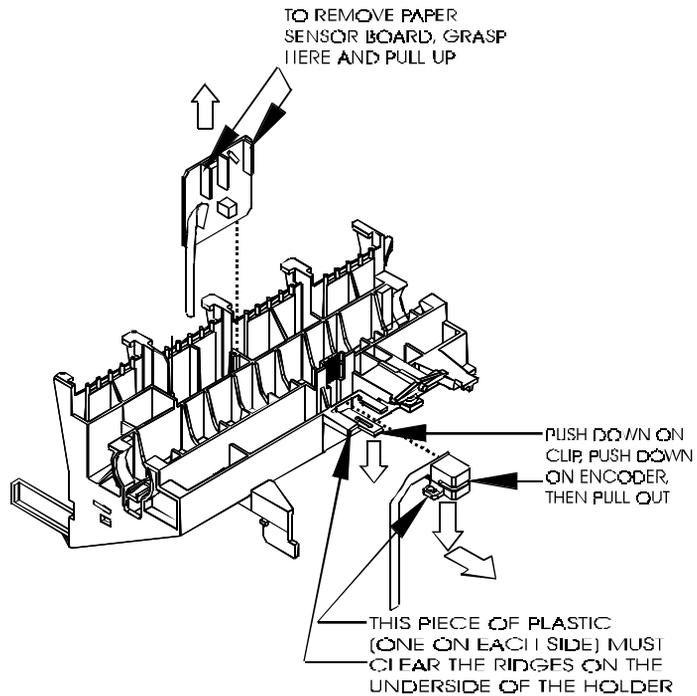

Figure 5-16. Paper and Encoder Sensor Removal.
- b. Turn the Carriage Assembly over and hold it while firmly grasping the Paper Sensor between thumb and index finger. See Figure 5-16.